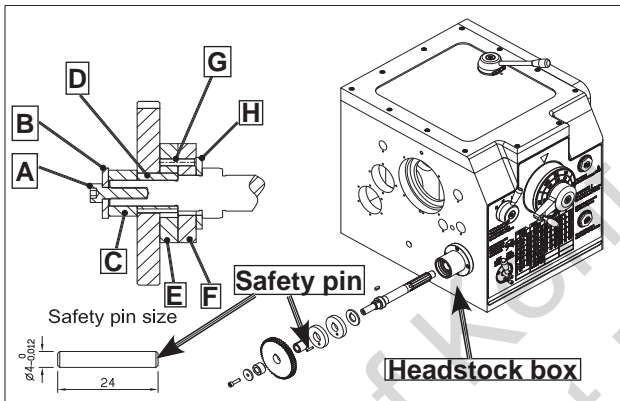

Figure 81. Safety Device for headstock.
1. Turn the screw (A) counter clockwise and remove it. Remove the thrust washer (B) of the pulley of timing belt.
2. Remove the timing belt pulley (C).
3. Remove the gear sleeve (D), safety pin inner locking ring (E), safety pin outer locking ring(F), safety pin(G) and safety pin stopper (H) in the sequence.
5. Reassembly the parts to the state as shown on figure 81.